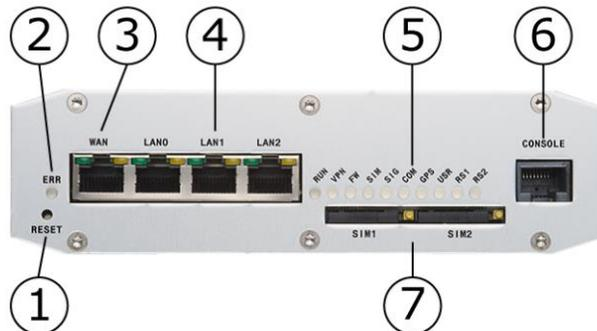

Figure 83: 3G-Router (top)
The Router settings are made by the Ethernet interface (Figure 83 [4]).
4. Connect the Ethernet cable to the router (Figure 83 [4]: the connections LAN0, LAN1 or LAN2).